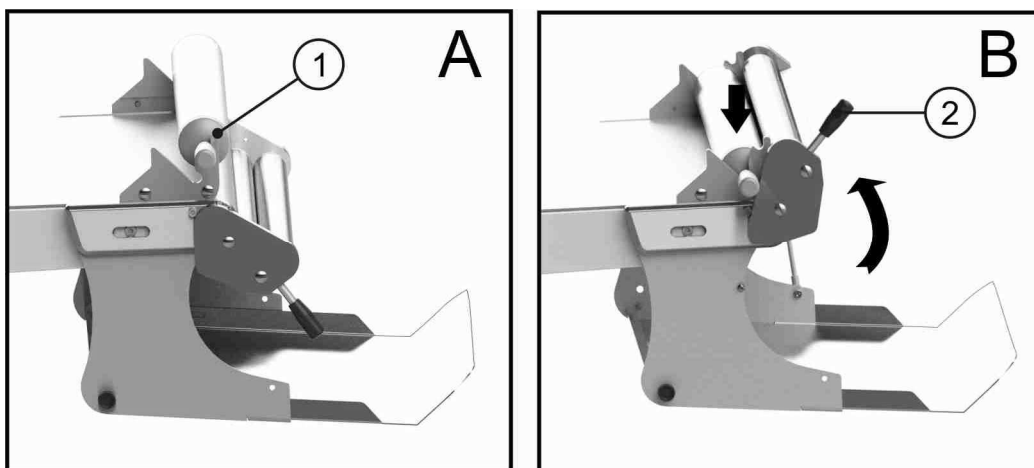

Figure 16
This accessory is only available as option for models R65-I and only when making the purchase. While the dough is being processed, the dough reeler must be in its resting position A (as illustrated in Figure 16), and the rolling pin must be on its support Ref. 1
- Use lever Ref. 2 Figure 16 to rotate the dough reeler towards the top, in the working position; Figure 16 the rolling pin will fall onto the table, in its working position
- Once the rolling operation is completed, stop the dough sheeter and take the dough reeler to its resting position A (as illustrated in Figure 16)